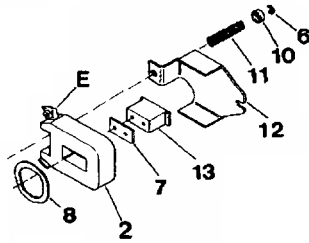
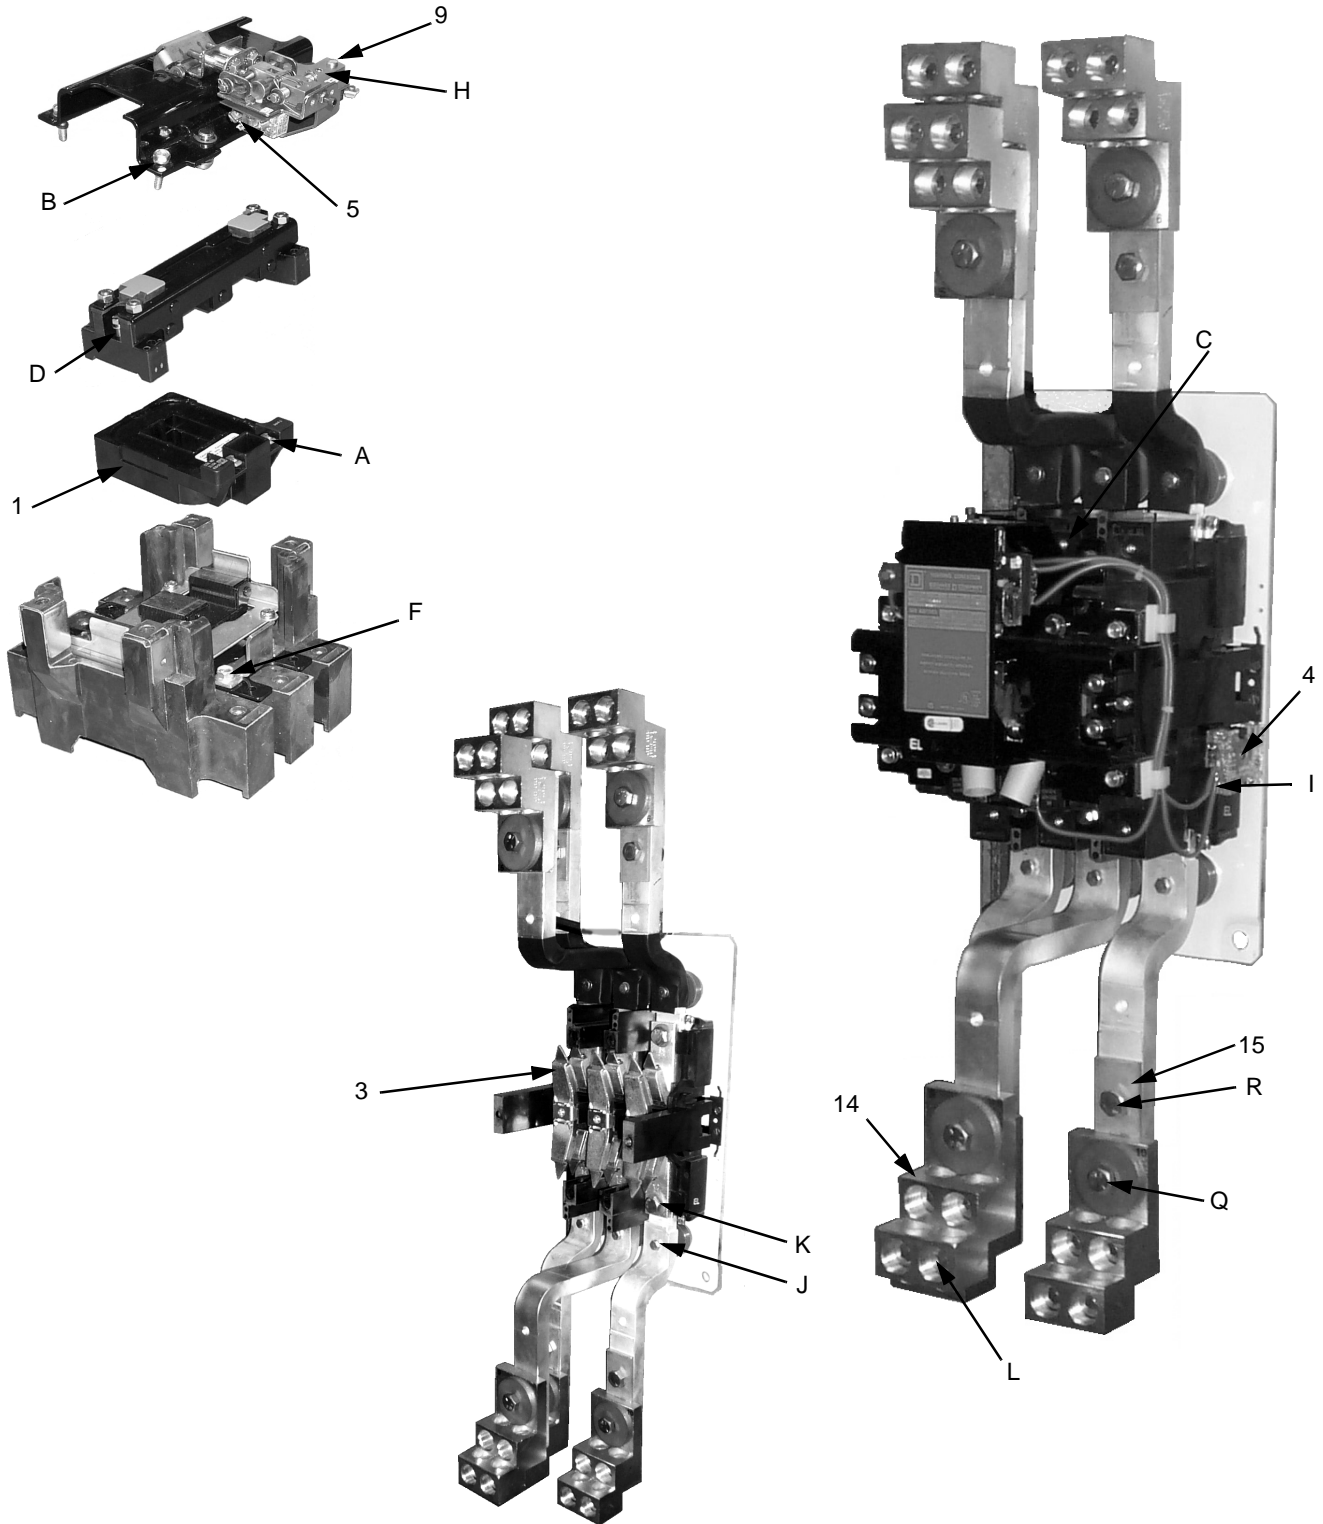

Figure 1: Unlatch Coil Assembly
Figure 2: Contactor Assembly Drawing
To manually unlatch the contactor, push the unlatch armature (12) toward the unlatch coil (2), to its energized position and the actuator pin will release the latch mechanism. (Refer to Figure 1 on page 4.)
To replace the latch coil (refer to Figure 2 on page 5):
To replace the unlatch coil (refer to Figure 1 and to Figure 2 on page 5):